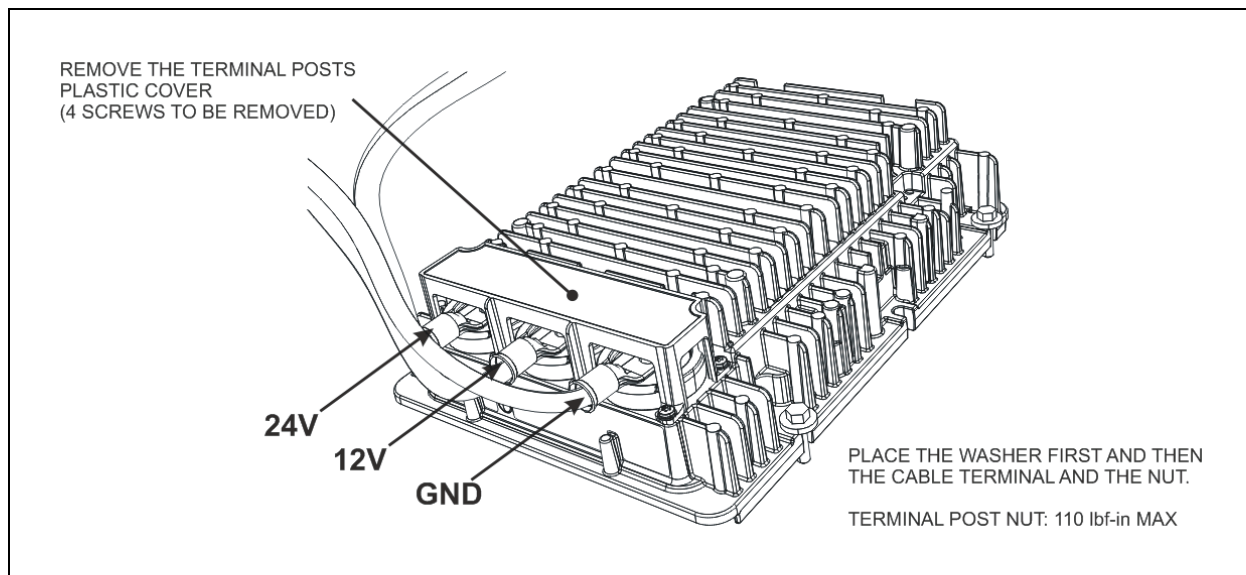

FIGURE 3: NEW BATTERY EQUALIZER SURE POWER 21100E00 (PREVOST 563829)
8. Remove the terminal posts plastic cover (figure 3).
9. While proceeding one by one, connect the 12-volt **(12VA)** and 24-volt **(24VA)** cables to the equalizer 12V and 24V posts respectively, using the saved hardware (figure 3).